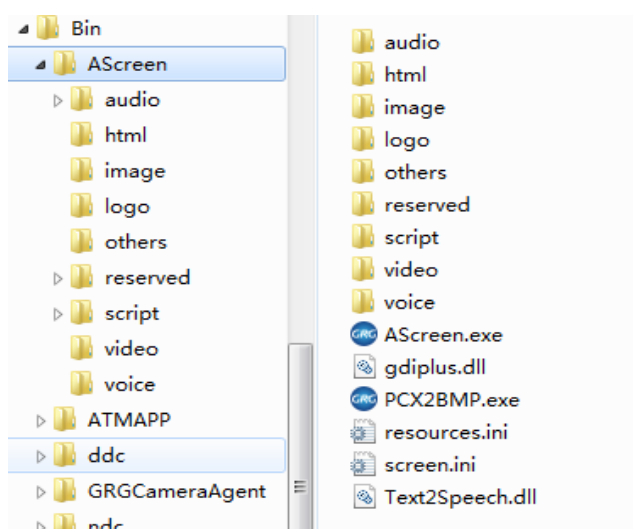

Figure 1-2-2: Resource Folder structure
- 1) The YDC resource folder is located at ".\AScreen", as shown in Figure 1-2-2.